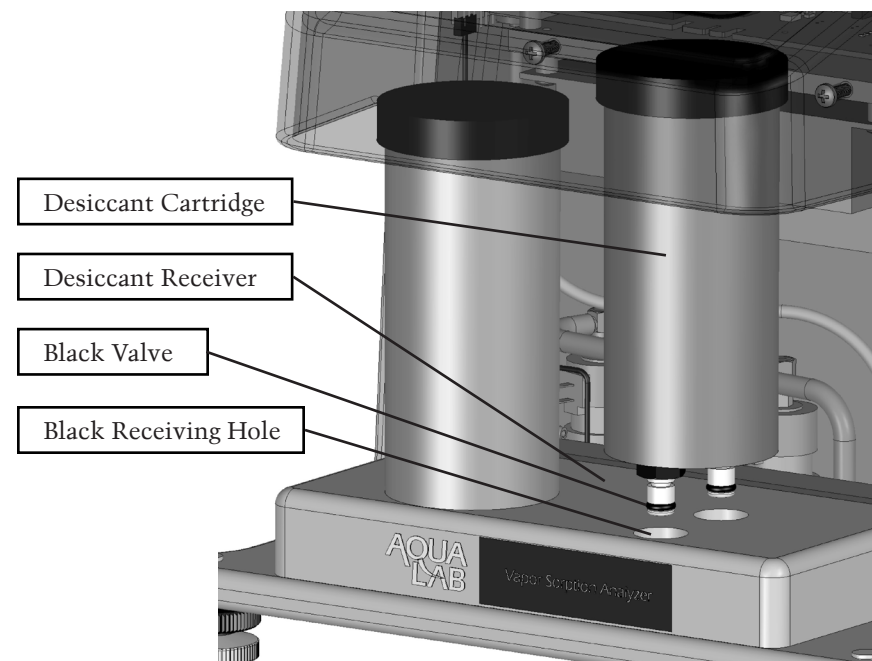

Figure 2: Desiccant installation
- Desiccant tubes are installed by orienting the tube so that the black colored valve inserts into the black receiving hole as shown in Figure 2: Desiccant installation. Before insertion make sure that the desiccant tube lid is firmly sealed onto the desiccant tube. (See Manual for instructions) Lift the tube into the area above the desiccant receiver and then insert the tube into the mating holes while shaking the tube slightly. Once in place, the desiccant tube is sealed for flow purposes and may move side to side if contacted.